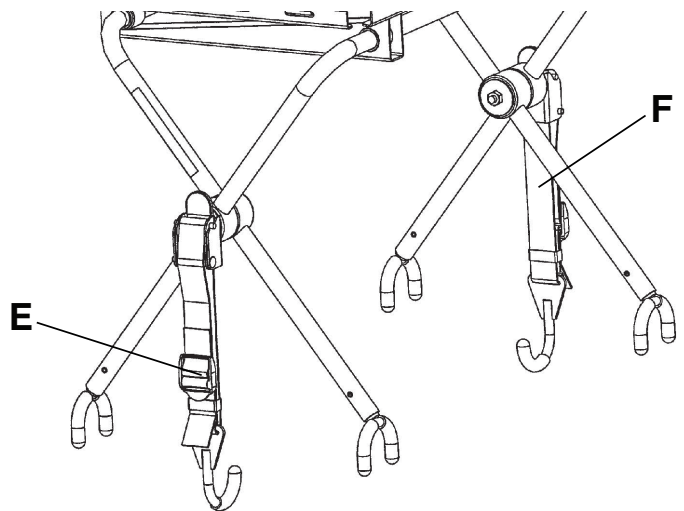

Figure 29 – Attach defibrillator platform to the cot
9. Secure the straps (E) to hold the defibrillator on the defibrillator platform (Figure 29).